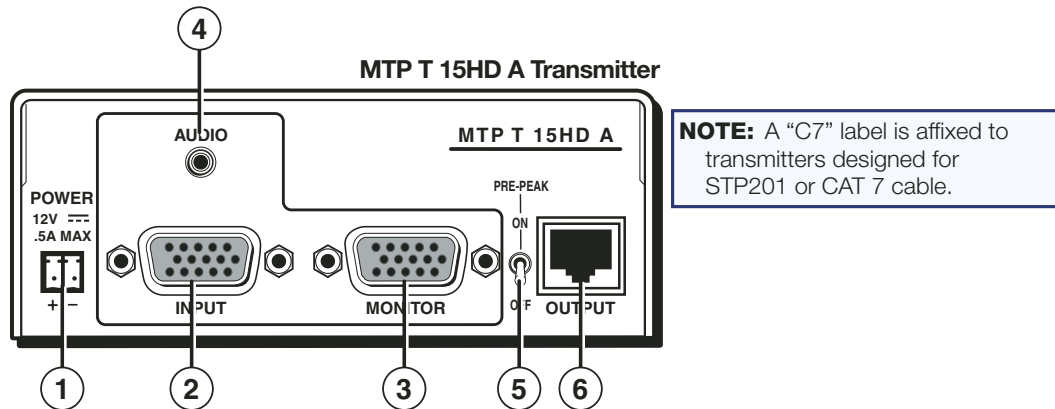

Figure 3. Transmitter Rear Panel
The maximum distance is determined by the frequency and resolution of the signal that is input to the transmitter. The **table** on page 4 specifies the recommended maximum transmission distances and transmitter Pre-Peak switch positions (see figure 3, ⑤ on page 9) using Extron Enhanced Skew-Free AV UTP cable, STP201 cable, or CAT 5, 5e, 6, or 7 cable, terminated with RJ-45 connectors.
Figure 3 shows an MTP T 15HD A transmitter, which has all of the connectors and other features that are on either transmitter in the MTP 15HD A series.